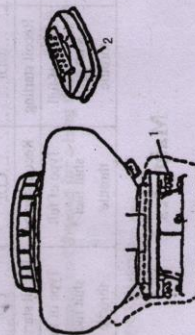

Fig.1
- 1) Remove the tow wing nuts fixed on the chemical tank and take down the tank. Change dusting lid plate for spraying lid plate, then assemble the chemical tank and screw down wing nuts as shown in Fig.1.